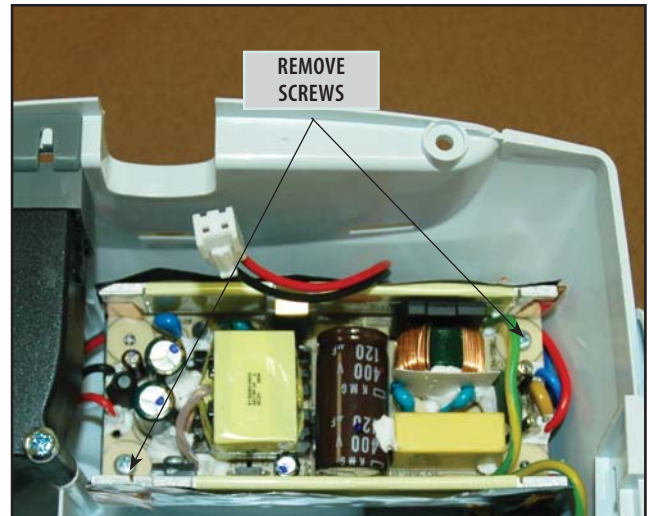

FIGURE 6.6
2. Using the # 1 Phillips Screwdriver, remove the two screws securing the Power Supply to the system Bottom. **See Figure 6.6.**